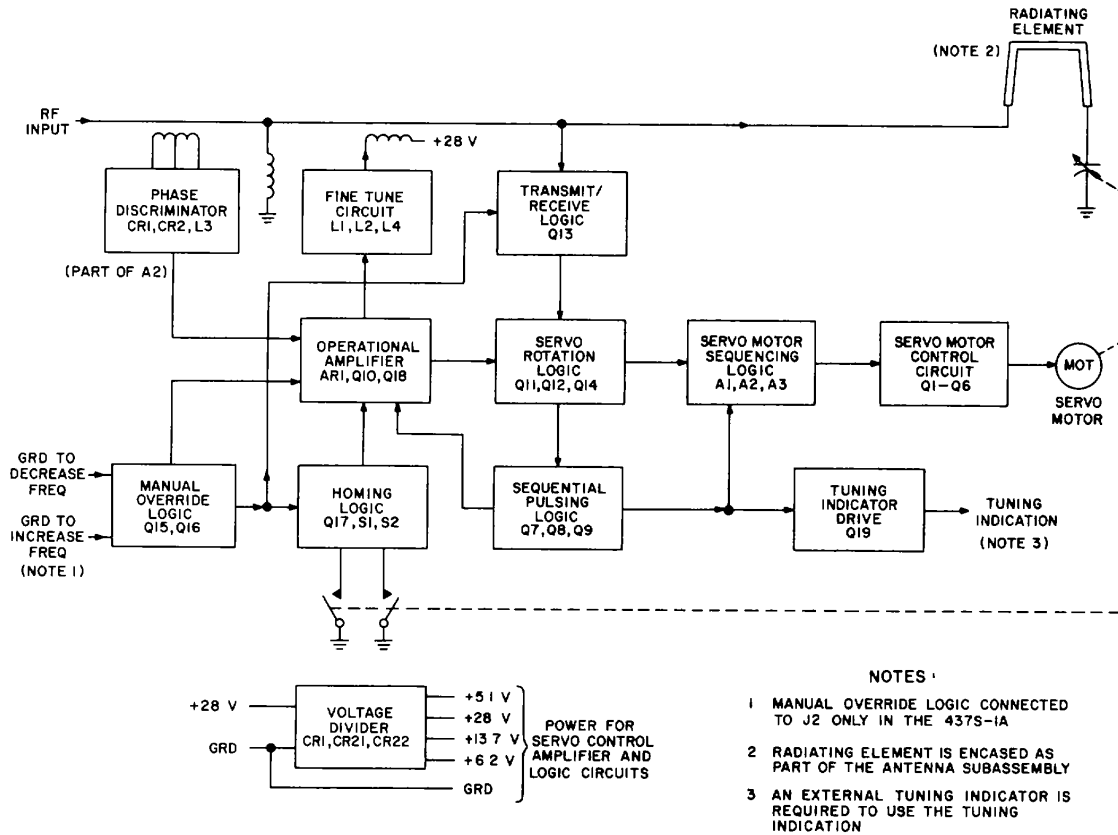

Figure 2-1. Antenna AS-285/ARC, vhf/fm blade type, functional block diagram analysis.
**2-3. Block Diagram Analysis (fig. 2-1)**